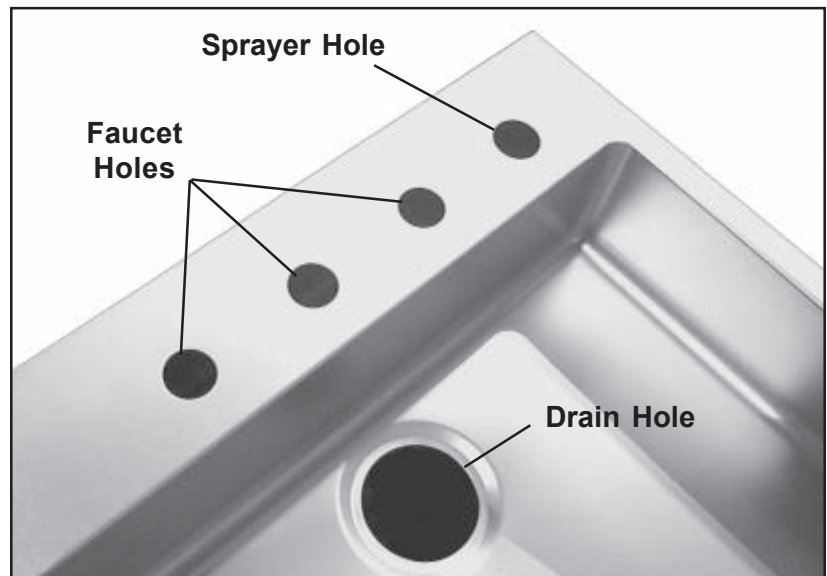

Figure 2. Faucet, Sprayer, and Drain Locations
Connect the drain piping to the tub drain (Figure 2).
1. Install and connect the faucets according to the instructions enclosed with the units (Figure 2).